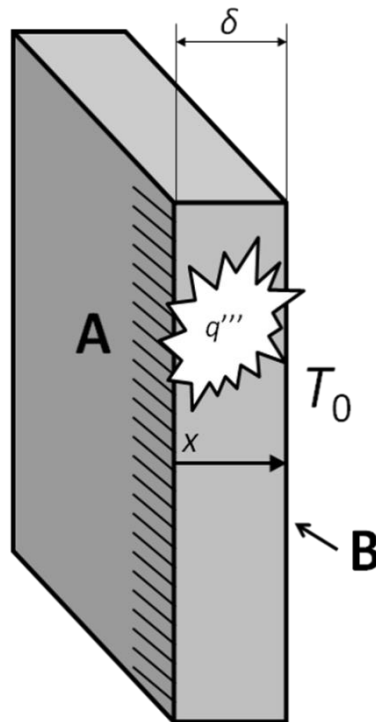

Fig. 1
- 1) In an infinite slab of thickness $\delta = 50$ mm (see Fig. 1) and thermal conductivity $k = 5$ W/m/K, a volumetric heat generation $q''' = 500$ kW/m³ takes place. Its surface A is adiabatic, while its surface B is kept at a constant temperature $T_0 = 300$ K. Assuming the problem is 1D along x , compute analytically and plot the temperature distribution across the slab. Then re-compute the temperature distribution using the finite differences (FD) method and compare the numerical solution with the analytical one, using different line styles, to be explained in a clear legend.